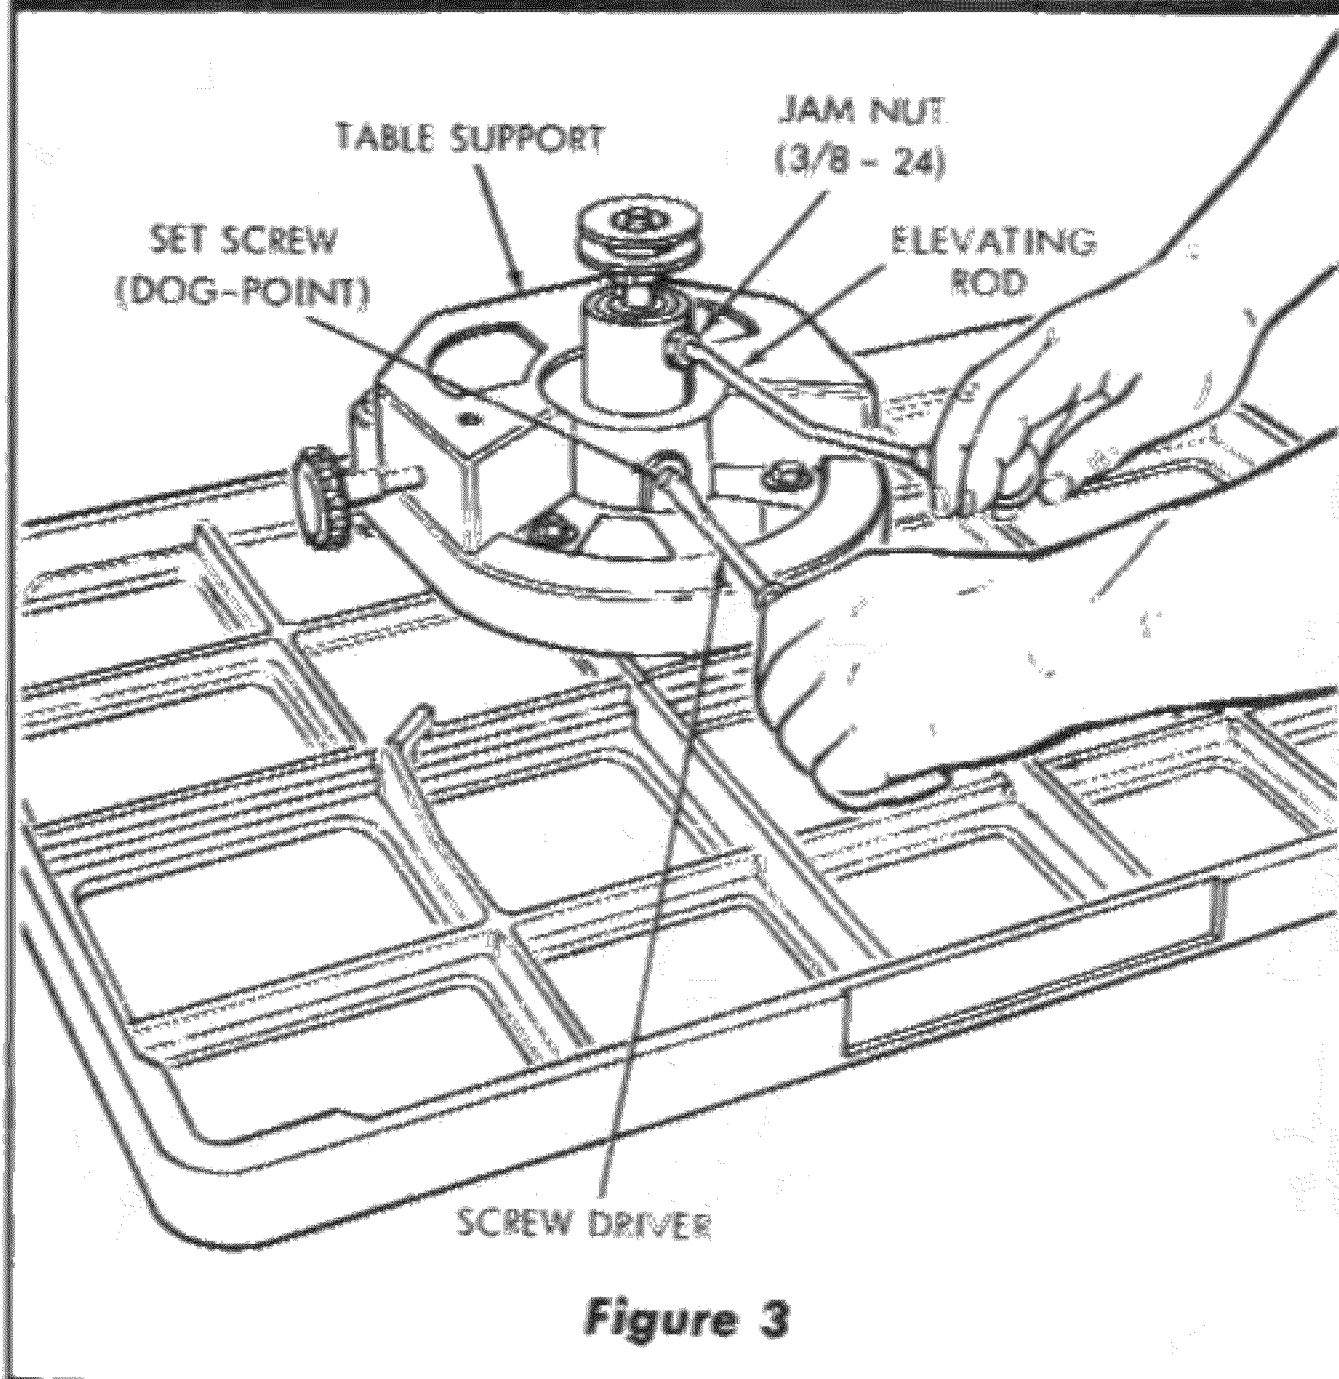

Figure 3
3. Insert the spindle assembly into the table support, position the long angle of the elevating rod straight down and tighten jam nut securely. (See figure 3.) The angle portion of elevating rod must be parallel with spindle assembly.
5. Rotate the set screw into the table support, while moving the elevating rod back and forth, until the dog point on end of set screw enters the elevating slot in spindle housing. (See figure 3.) This can be felt as the set screw and quill are rotated. Tighten the set screw, then back it off 1/4 turn. This should allow enough clearance for the quill slot to slide on dog-point end of set screw.